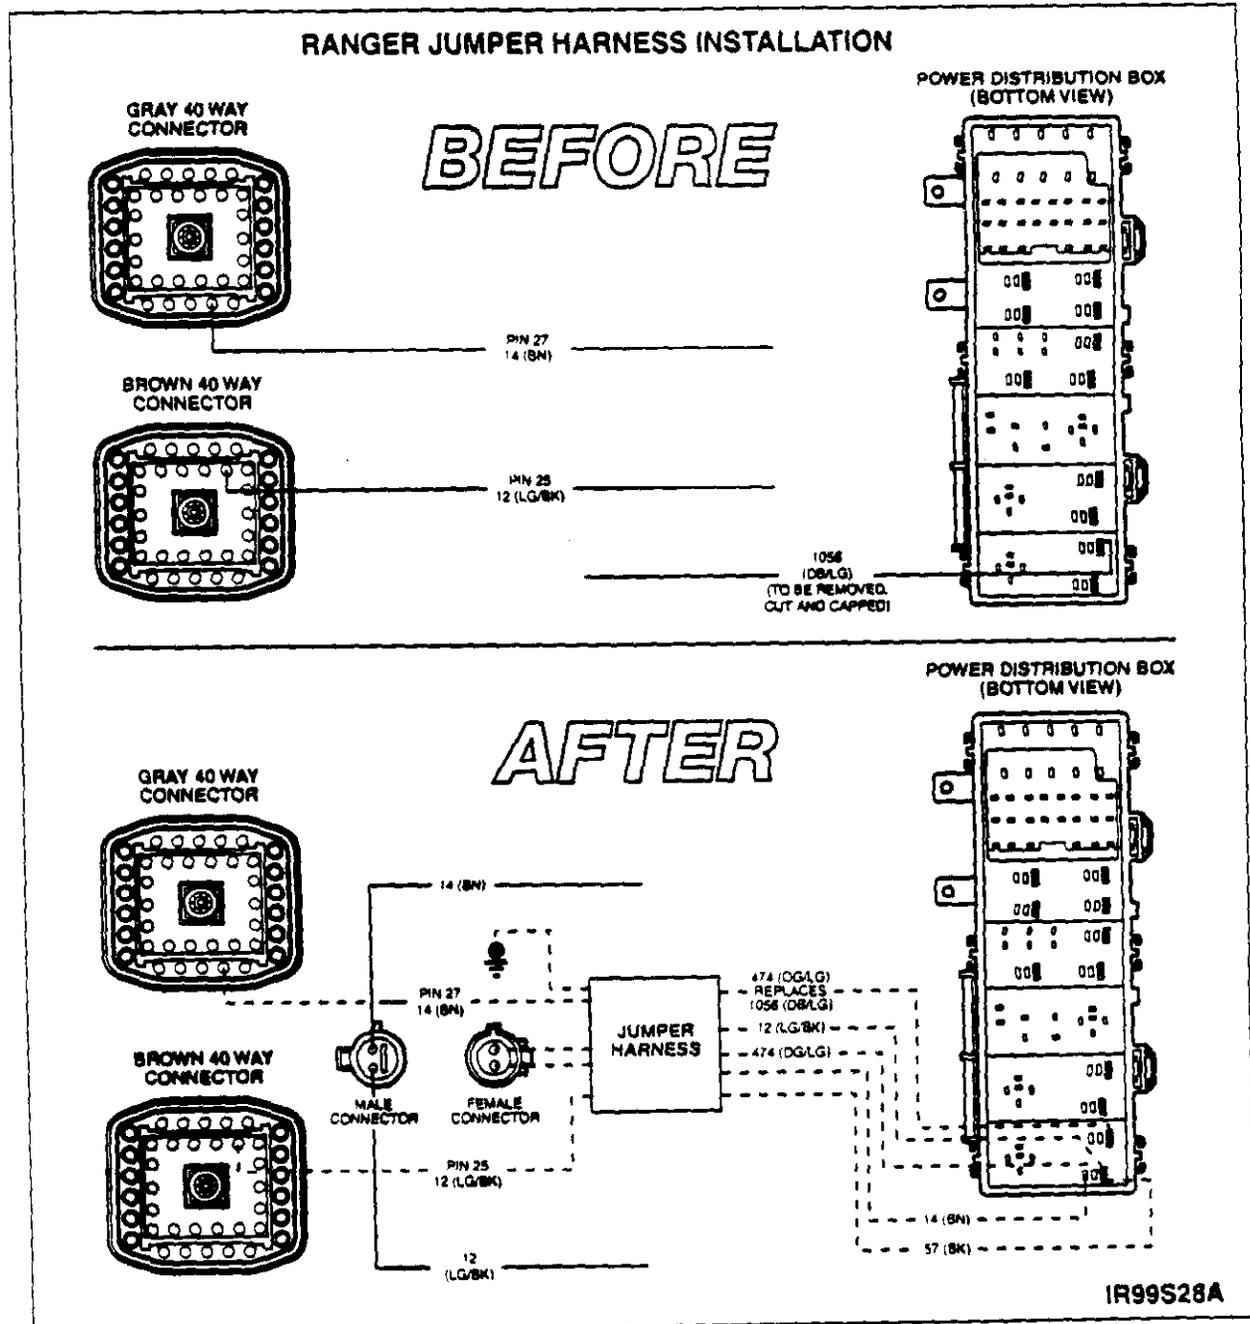

FIGURE 1
1. This diagram is supplied to aid in the identification of components and circuits during the relay jumper harness installation. See Figure 1.